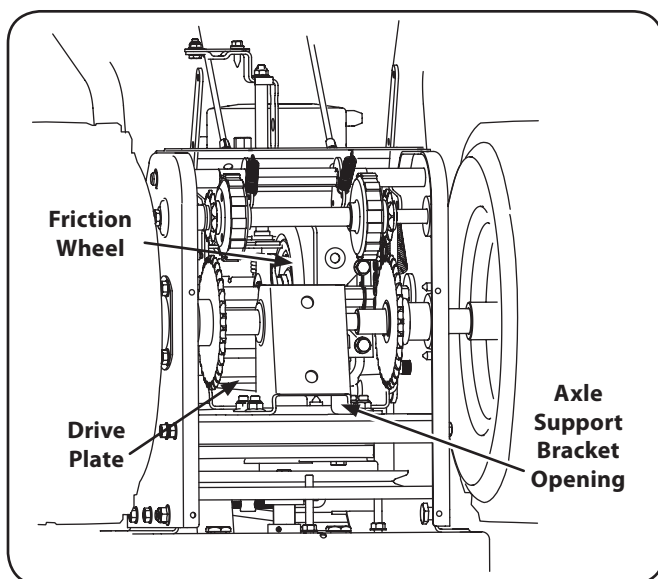

Figure 6-7
4. Locate the opening between the axle support bracket and the front frame support (See Figure 6-7). Looking through this opening, with the drive control released, there must be clearance between the friction wheel and the drive plate in all positions of the shift lever.
5. With the drive control engaged, the friction wheel must contact the drive plate. Refer to Figure 6-7.